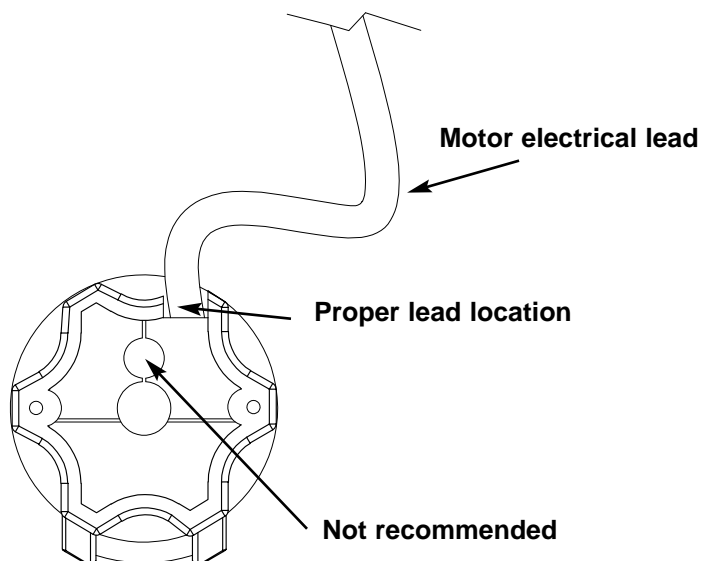

Figure 4. Routing the motor lead
1. Route the motor electrical lead (pigtail) for your particular installation. Refer to Figure 4 for proper lead location.